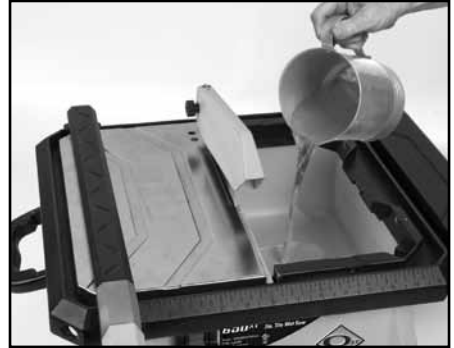

FIGURE 10
2. Remove the right cutting table and fill the water reservoir to the top of the overflow opening (see FIGURE 10). Do not fill above this level.